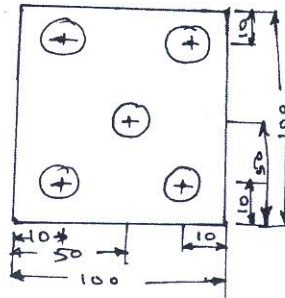

Fig.Q7(c)
c. Write a manual part program to drill 5 holes of $\phi 15$ mm for the shown part in Fig.Q7(c). The plate size is $100 \times 100 \times 20$ mm. Assume suitable data. (08 Marks)